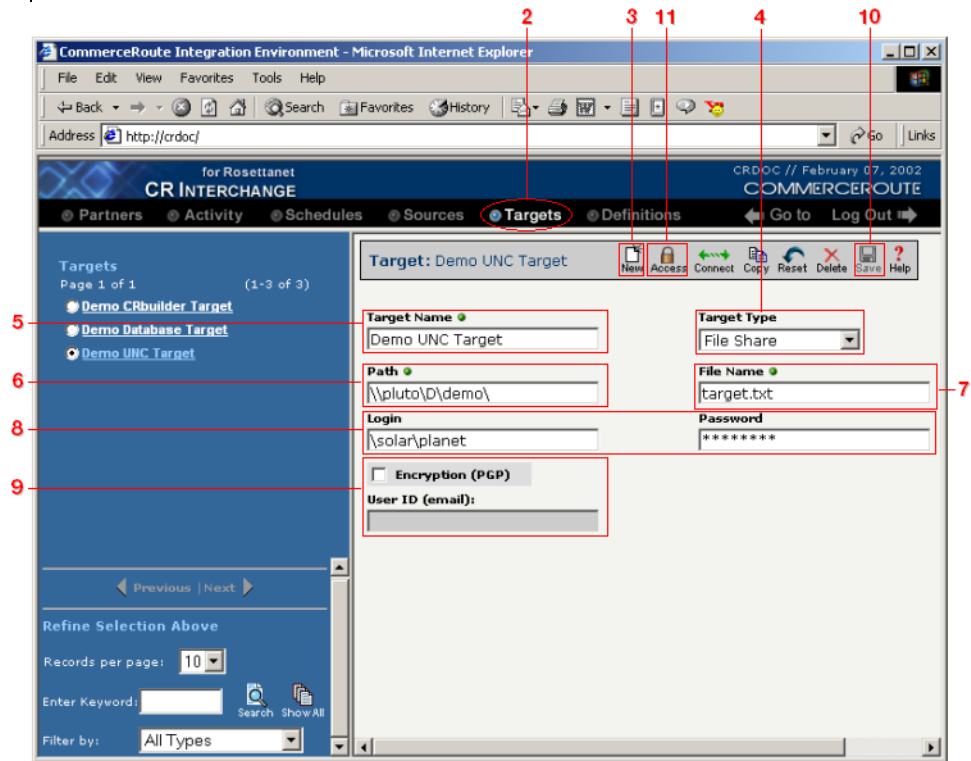

Figure 8-3. Follow the steps listed above to successfully define a new File Share target.
Follow these steps to create a new file share target definition. Each step is marked in Figure 8-3 below.
- ❶ Log in to the CR Interchange environment (see “Log In to the Tour” on page 2-2 for details).
- ❷ Click on the **Targets** button in the main navigation bar at the top of the screen.
- ❸ Click on the **New** button in the toolbar to create a new target definition.
- ❹ Select **File Share** from the **Target Type** drop-down menu.
- ❺ Type a new name for the target in the **Target Name** field.
- ❻ Enter the name of the file share path in the **Path** field. For example, `\\demo\` directs the system to look for a shared network drive called “demo”.
- ❼ Enter the file name(s) (such as `BillofSale.txt`) that will contain your target information in the **File Name** field.
- ❽ (Optional) If you need to enter a login (in the form of `domainName\username`) and password to access the shared network drive, enter appropriate values here.
- ❾ (Optional) If your environment uses Pretty Good Privacy (PGP), select the **Encryption (PGP)** checkbox and enter a valid user ID.
- ❿ Click the **Save** button in the toolbar. Compare your definition to that shown in Figure 8-3 below.